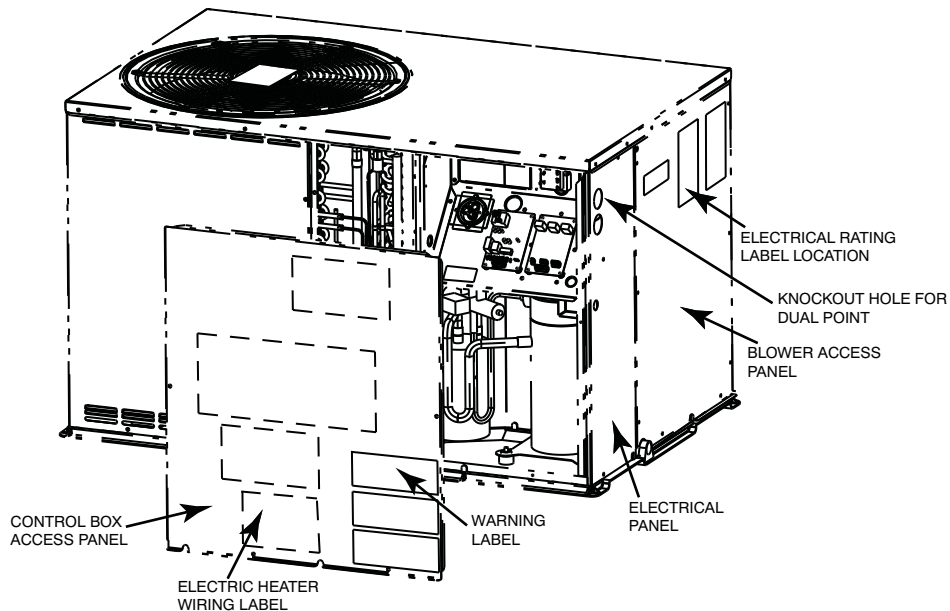

Fig. 2 - Panel and Label Location
2. Remove Control Box Access Panel (see Fig. 2), check for clearance on the inside of control box, and remove a 7/8-in knockout hole on the Electrical Panel for second power line.
3. Attach warning and rating labels in the selected location (see Fig. 2).